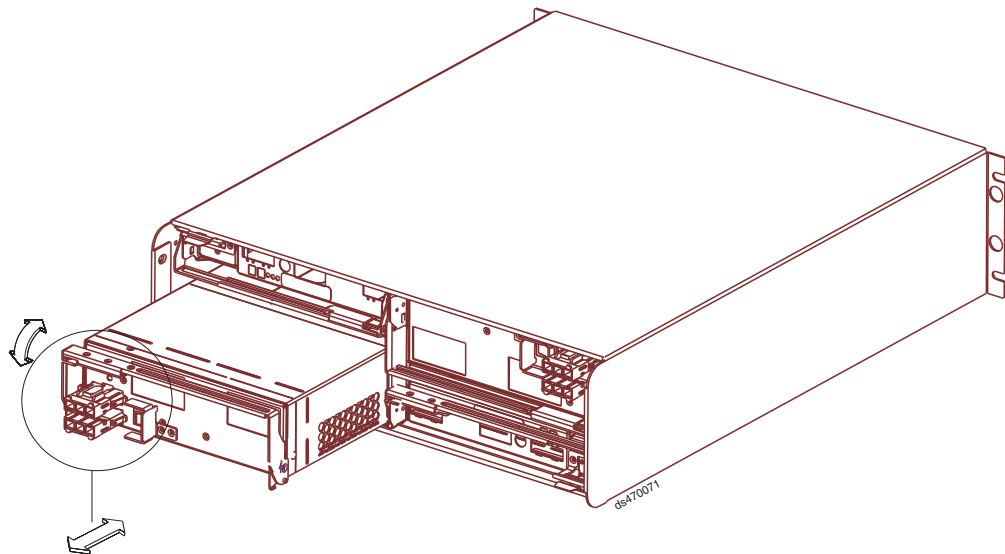

Figure 55. Replacing a dc power supply and fan unit
11. Slowly pull the lever away from the chassis to remove the dc power supply and fan unit, as shown in Figure 55 on page 114.